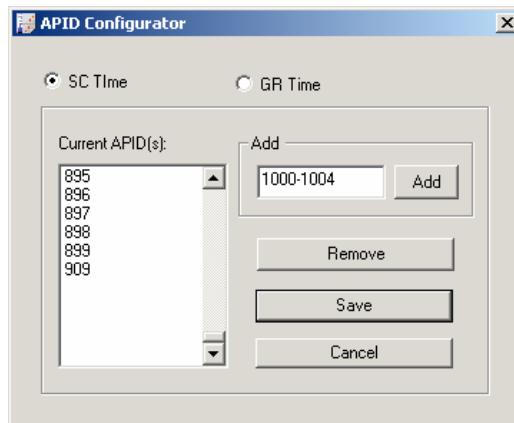

Figure 121 Ingest APID Configurator Screen
- Follow directions from the Current APID display screen to add or remove values (*Figure 121*).